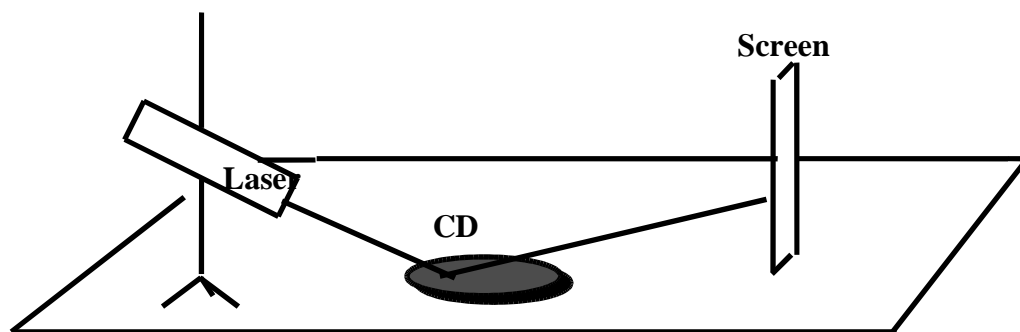

Figure 2
8. Remove the mirror. Place the CD, marked side down, onto the table. We will call this arrangement "setup 1." Separate the laser head and the graph paper so that x_1 and x_g are each about 70 cm. (Again, use the mirror beam spot on the mirror as your origin.) Adjust y_1 so that the laser head is about 5 cm above the tabletop. Measure y_1 . Position the CD so that the laser beam strikes the CD on a spot closer to the laser than to the graph paper. See figure 2. The laser head, CD beam spot, CD center and graph paper beam spot should all lie in a single plane. Observe the pattern of laser light on the graph paper. Measure the vertical height y_g above the CD surface of the center of the spot pattern.